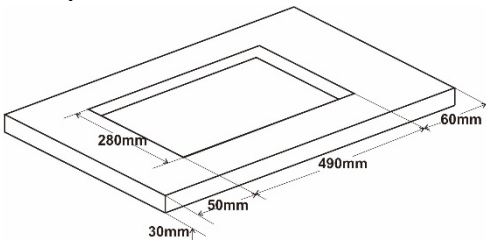

Figure.1
- It is essential that the cut out in the mounting surface as shown in Fig 1 and a minimum clearance of 300mm on both sides of the hob be established. For reference, use the cardboard template that is supplied with the appliance to aid in placing the cut out in the correct position on the mounting surface.